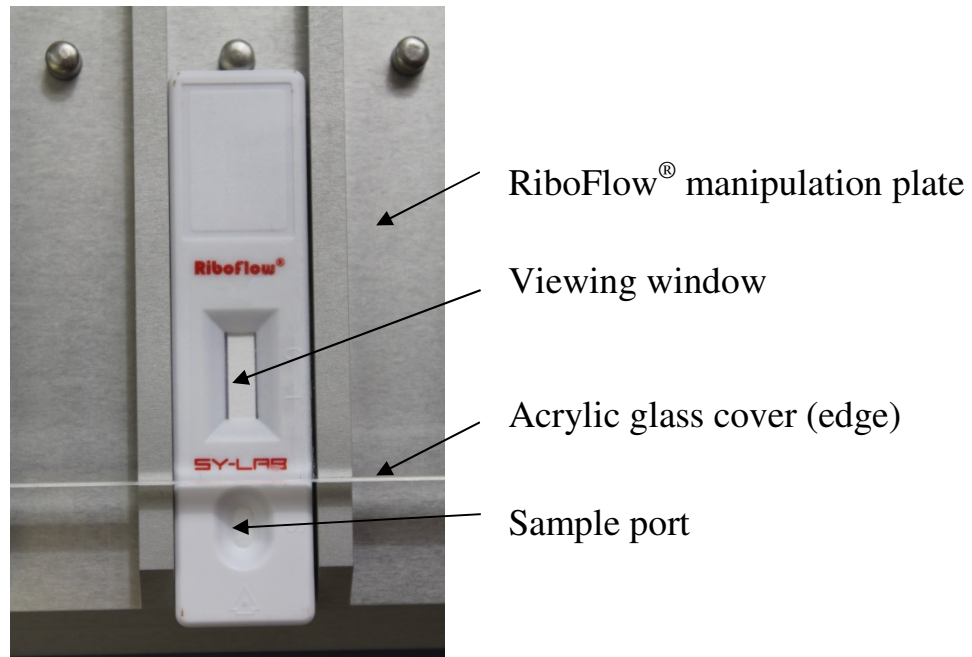

Fig. 1: RiboFlow[®] lateral flow assay device
3. Pre-warm Solution C and the required number of RiboFlow[®] lateral flow assay devices (test cassettes) for at least 10 minutes in the IL-10 Mini-Incubator set to +48°C, before the assay is carried out. To this end, slide the devices into the pre-warmed RiboFlow[®] manipulation plate lying in the incubator, so that the sample ports are not covered by the acrylic glass cover of the plate (Figure 1).